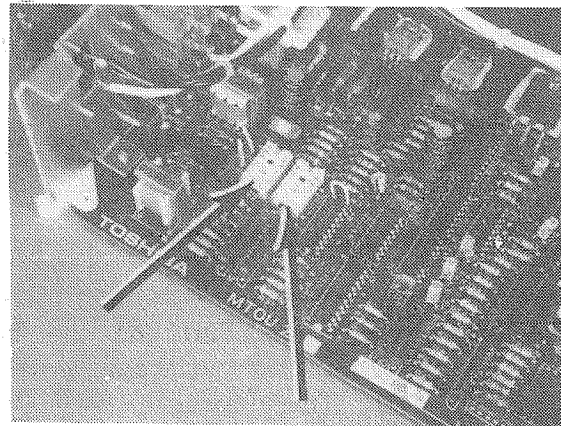

FIGURE 5
05.02 To equip either of the two relay service functions; obtain the optional relay from your Toshiba supplier and install it in the proper location on the MTOU, per Figure 5.
05.03 External page impedance is selected with the SW2 switch located adjacent to the relay sockets on the MTOU PCB (Figure 5). Decide if 8- or 600-ohm impedance is required, then make the selection by positioning the SW2 switch to "8" or "600", whichever is required. Figure 5 shows the switch in the 8-ohm position.